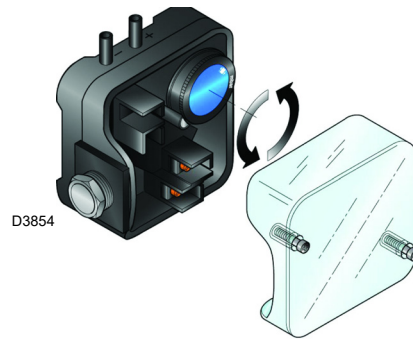

Fig. 40
- Adjust the air pressure switch (Fig. 40, page 32) to the start of the scale.
Adjust the air pressure switch (Fig. 40) after having performed all other burner adjustments with the air pressure switch set to the min. of the scale.